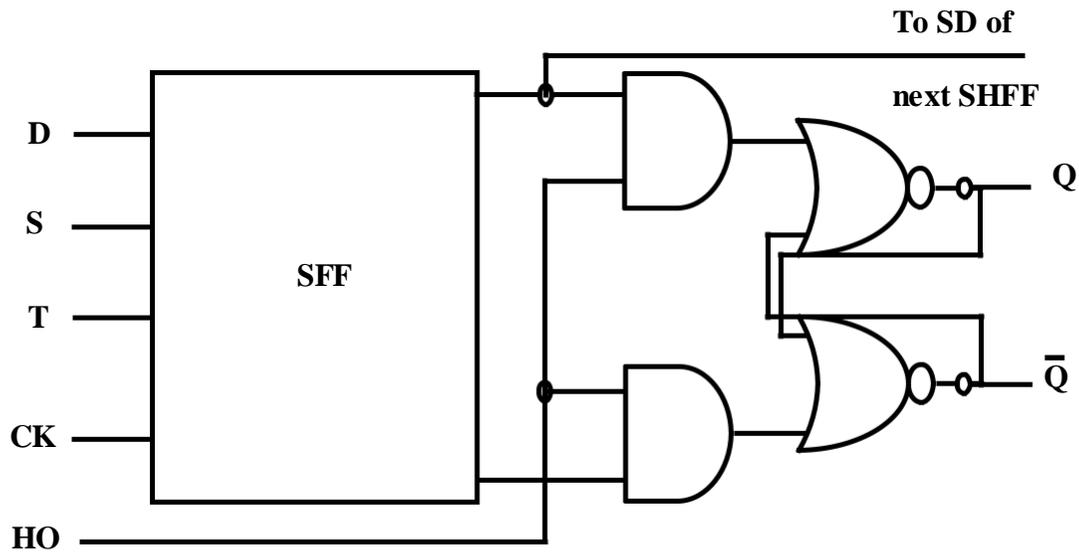

**Fig. 39.7 The RAM cell**
2. It uses an address decoder. By using address decoder we can select a particular FF and either set it to any desired value or read out its value. Figure 39.6 shows a random access structure and Figure 39.7 shows the RAM cell [1,6-7].